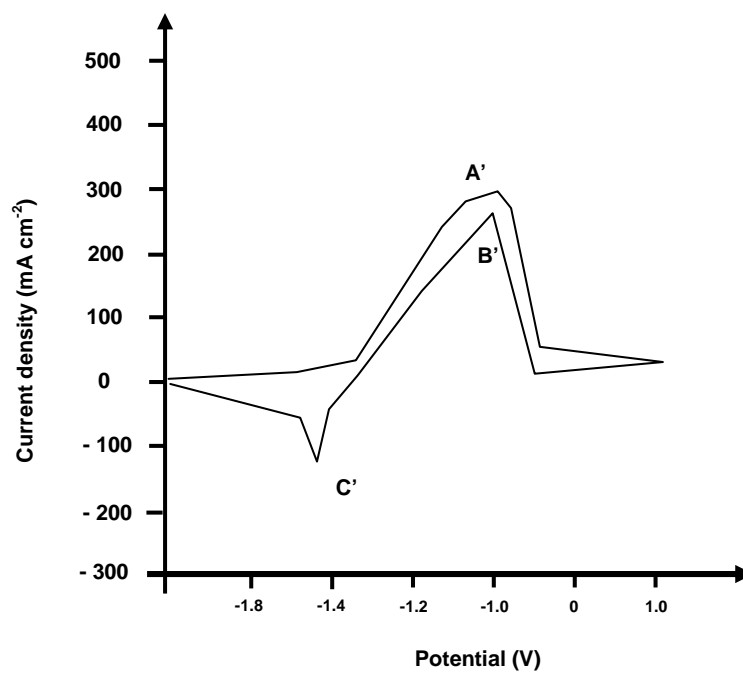

Figure 3 / Rajah 3
- (iii) When other element is added in zinc electrode, a new cyclic voltammetry result is shown in Figure 3. Analyse and explain this new finding.